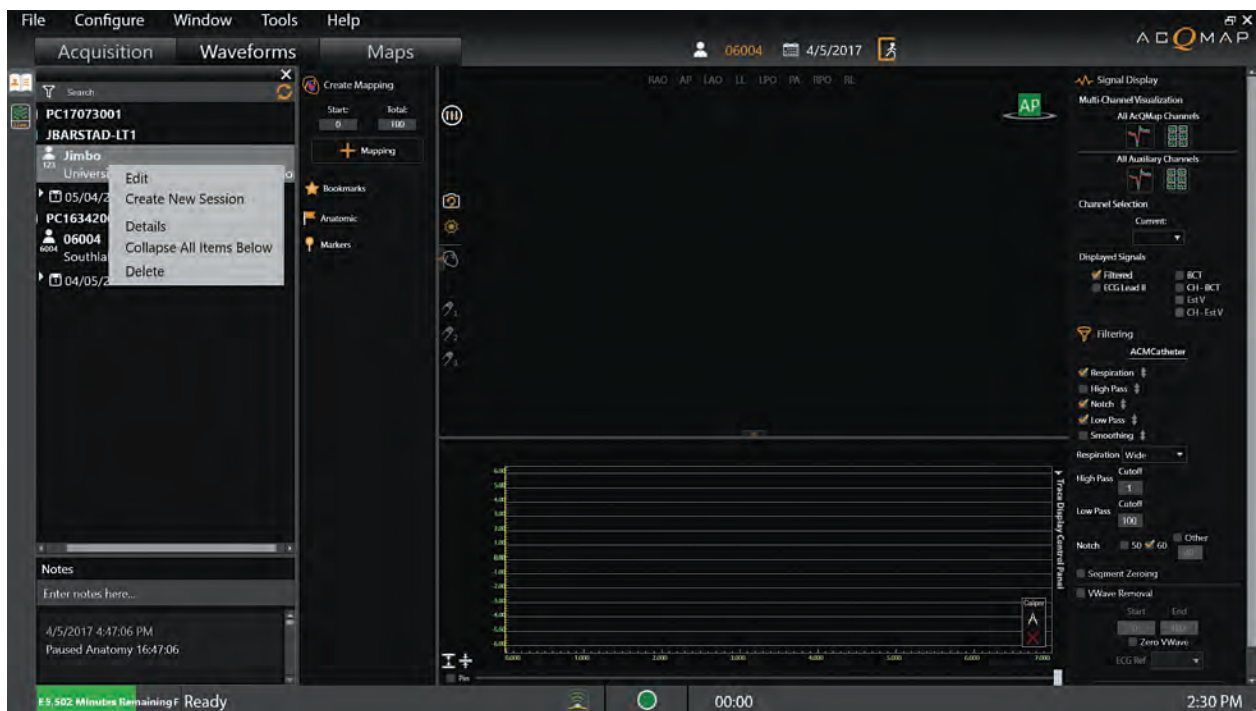

Figure 8-6. Right click on the patient and select Create New Session to create a new patient session within the patient record.
8. Session 1, with the associated time and date, is automatically created when a new patient is entered. Subsequent patient Sessions can be created by navigating to Patient Identifier, right-clicking and selecting Create New Session. (Figure 8-6)